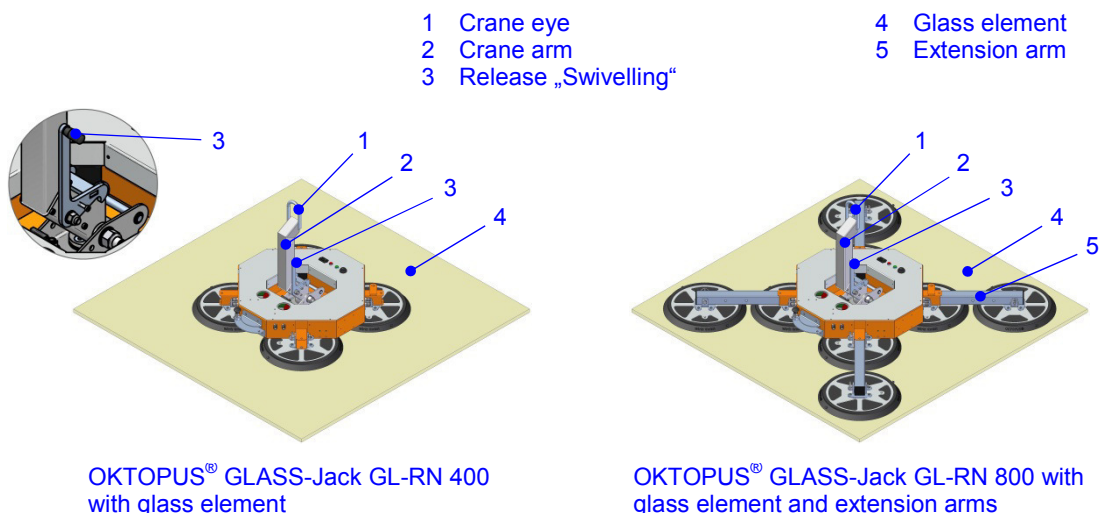

Fig. 11: OKTOPUS® GLASS-Jack GL-RN 400 and 800 with glass element
- ⇒ In order to suck a lying load, you need the OKTOPUS® GLASS-Jack GL-RN 400/600/800 in the version with a crane arm or with a crane arm and extensions (see fig. 11, ex. OKTOPUS® GLASS-Jack GL-RN 400 and 800).
- ⇒ Unlock the release "Swivelling" (see fig. 11) and move the crane arm with the mounted OKTOPUS® GLASS-Jack GL-RN 400/600/800 to the elements. Place the OKTOPUS® on the topmost element.